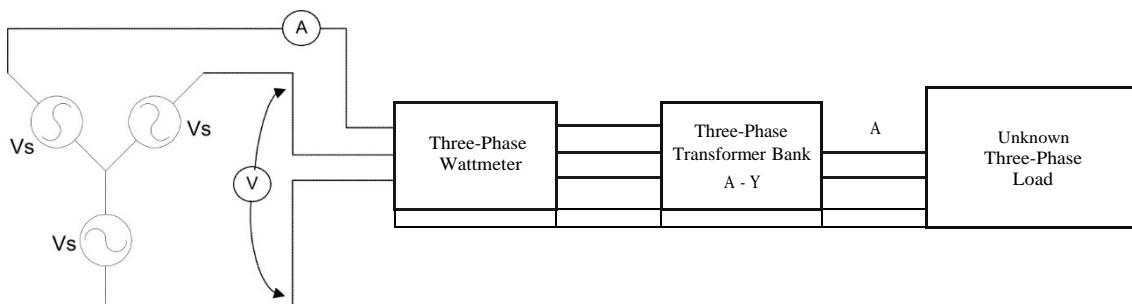

FIGURE 5.11
- 3) Analyze the balanced circuit shown in Figure 5.11 assuming that the transformer ratio of every single-phase transformer is 93:1 (that is, the 208 V winding is the primary and the 120 V winding is the secondary).